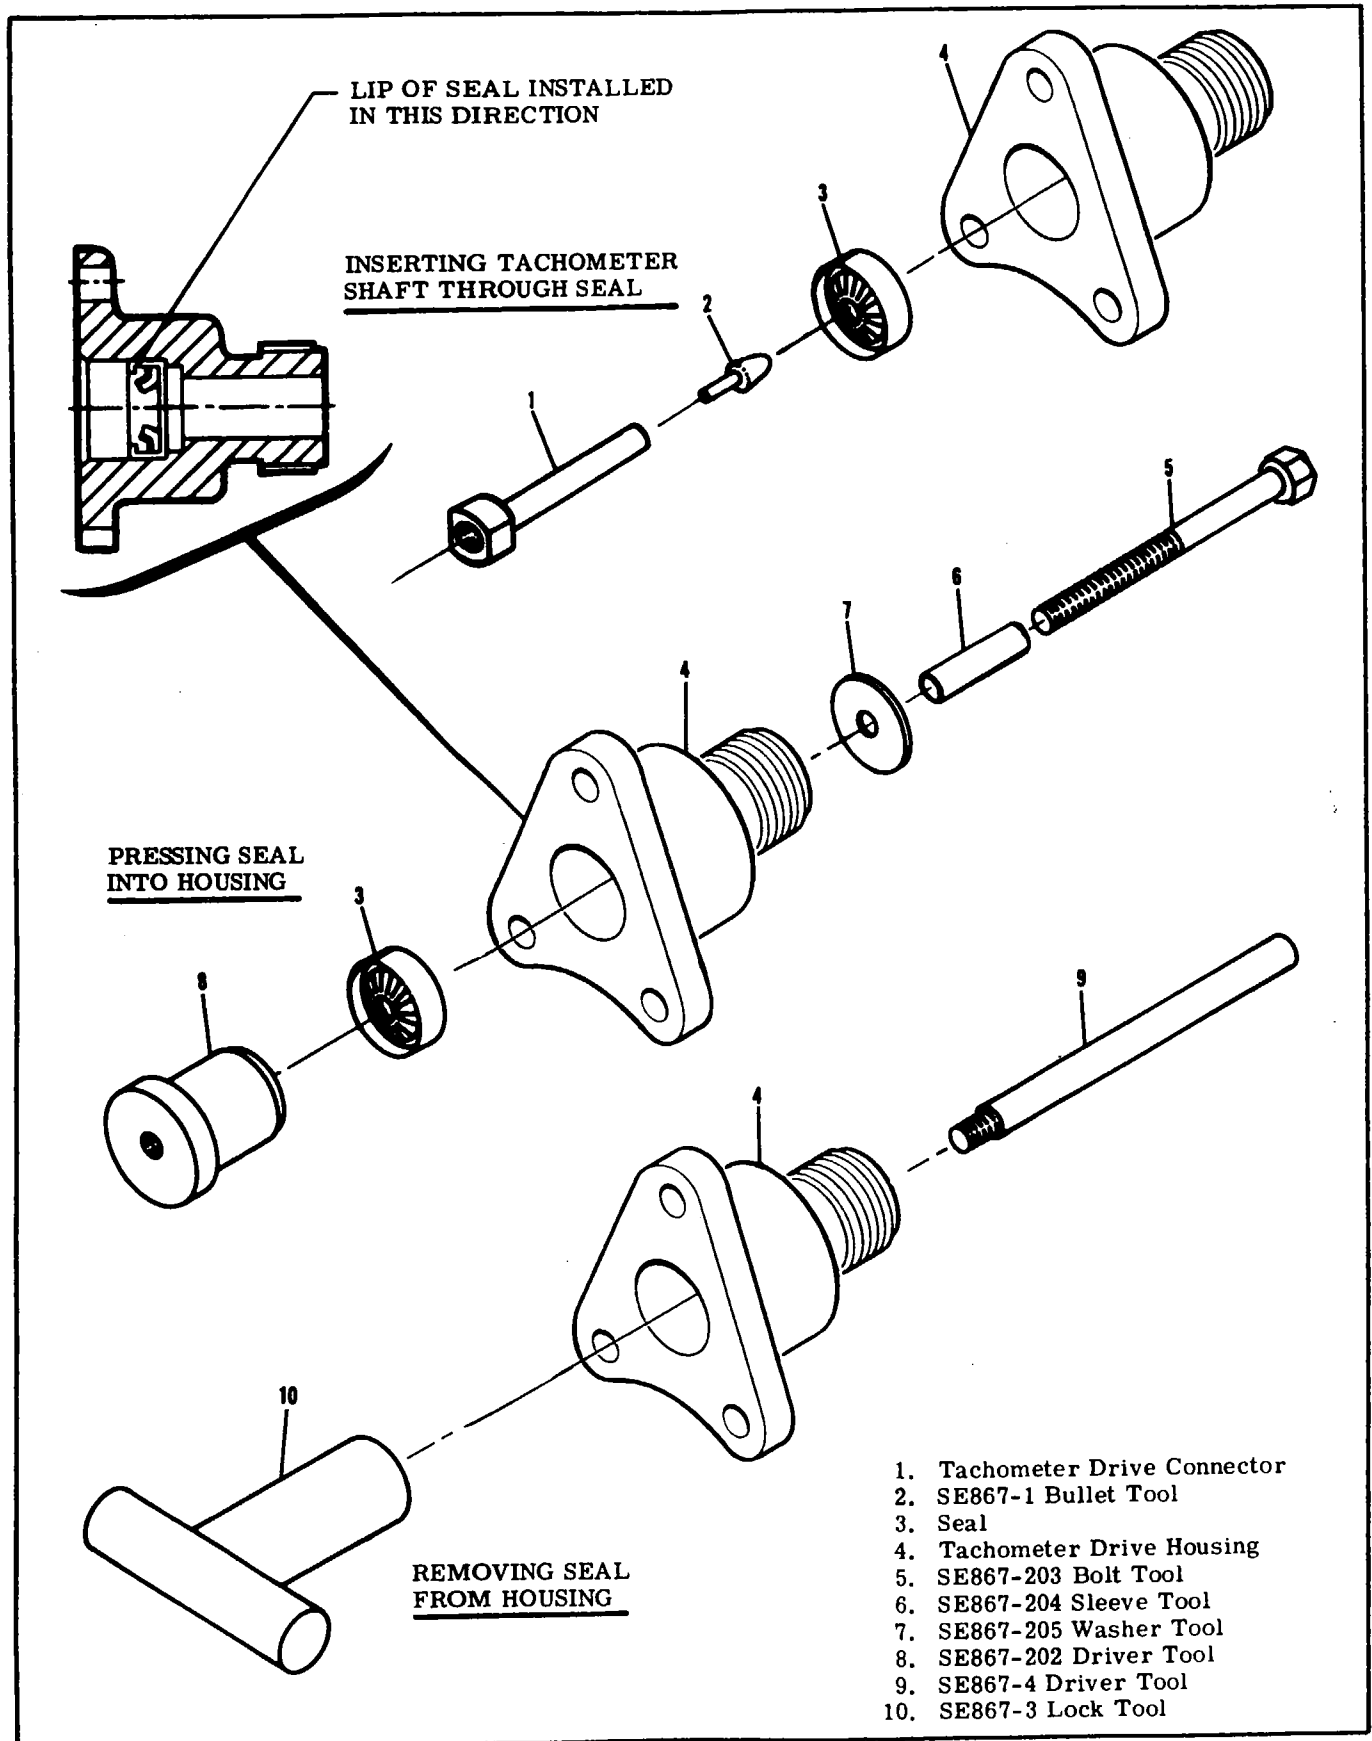

Figure 11-4. Tachometer Drive Seal Installation
- g. Engage lock tool (10) and driver tool (9) through the housing (4) as shown in figure 11-4. Tap the driver tool (9) with a hammer until the seal (4) is removed from the drive housing.
- h. Engage bolt (5) through sleeve (6), washer (7), drive housing (4), seal (3), and into driver tool (8) as shown in figure 11-4. Tighten bolt (5) until driver tool (8) comes in contact with the face of drive housing (4).
Seal is to be installed with lip of seal as shown in figure 11-4.
- i. Remove the tools and inspect seal (3) for proper seating.
- n. Insert bullet tool (2) into end of the tachometer drive connector as shown in figure 11-4.